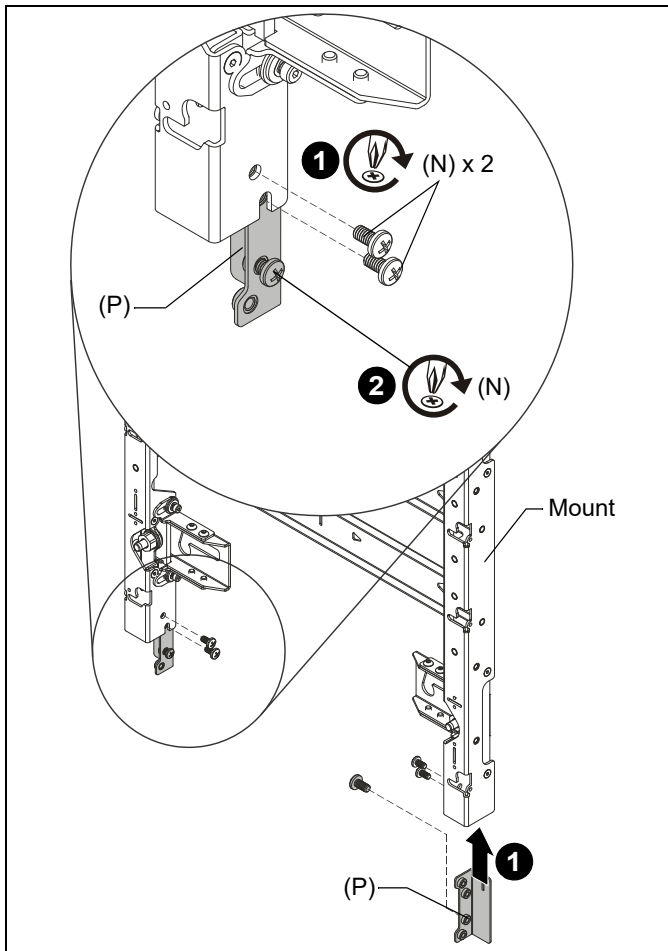

Figure 2
1. Slide the vertical connector (P) up from the bottom of the mount, and attach with two 1/4-20 x 1/2" Phillips pan head screws (N) per vertical connector. (See Figure 2)
2. Loosely install one 1/4-20 x 1/2" Phillips pan head screw (N) in the upper screw hole at the bottom of each vertical connector (P). (See Figure 2)